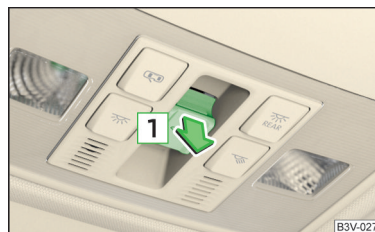

Fig. 51
- > Pull the switch on the recess in the direction of arrow **1** » Fig. 51 all the way down and hold.